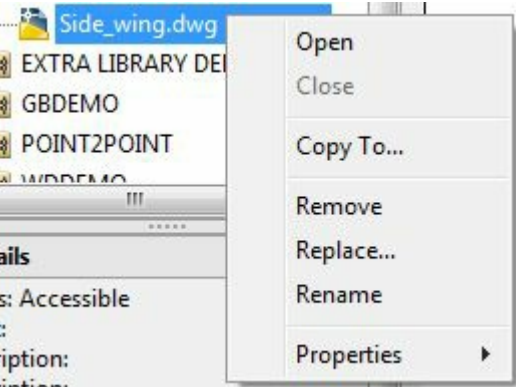

Figure-44. Shortcut menu for drawing
- Select the drawing from the **Project Manager** that you want to remove, replace, or rename. Right-click on it, a shortcut menu will be displayed; refer to Figure-44.